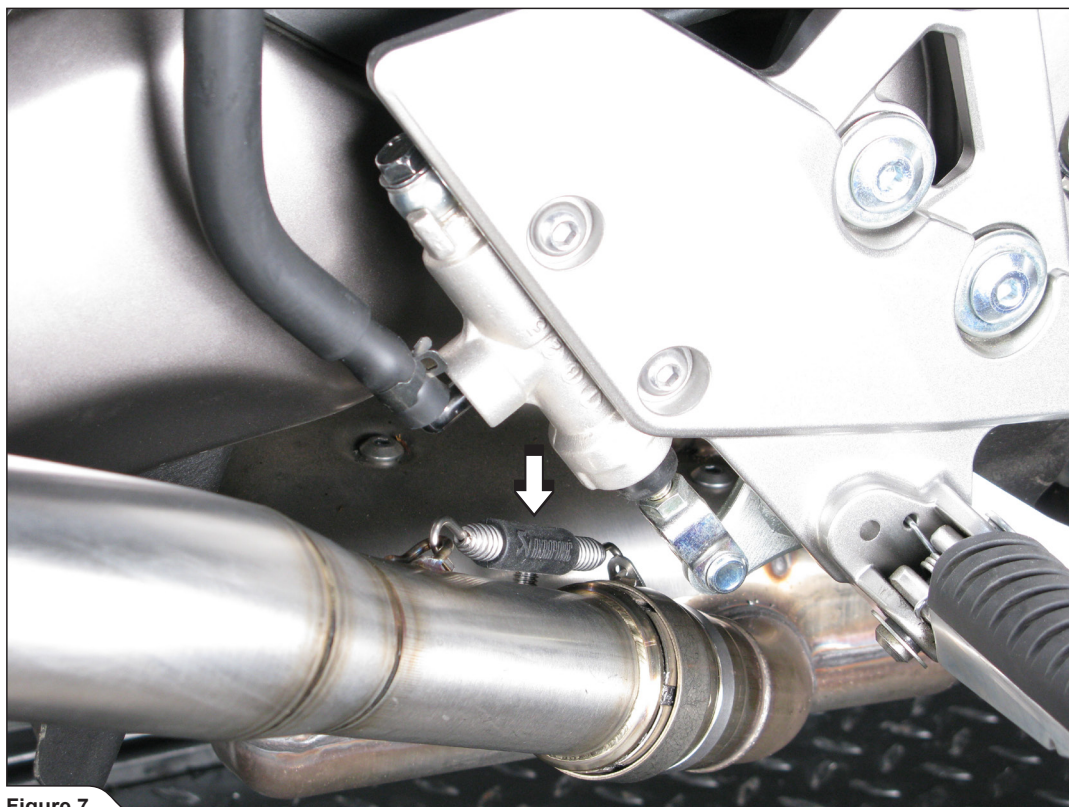

Figure 5
2. Correctly position the carbon fiber clamp and slide it onto the muffler - bear in mind the **left offset** of the carbon fiber clamp; check the position of the yellow sticker on the clamp (**Figure 5, 6**).